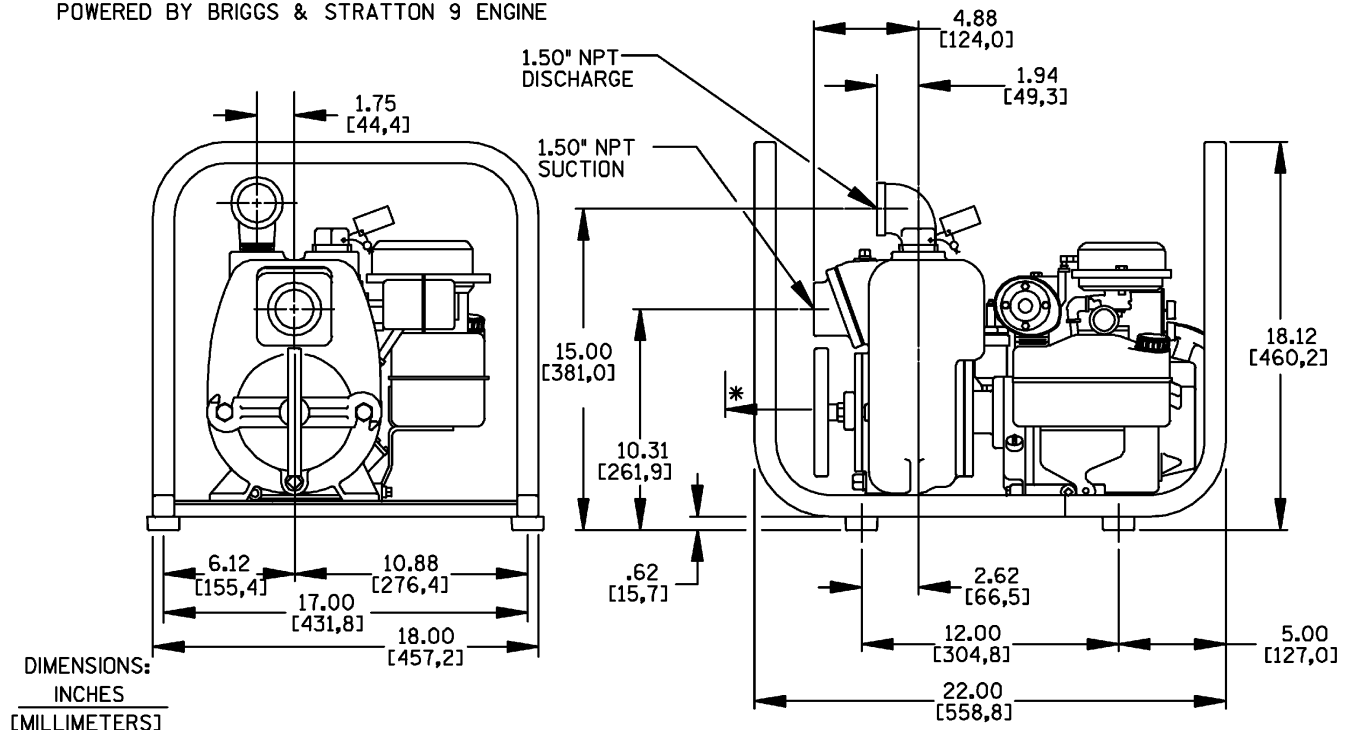

Figure 1. Pump Model 11 1/2A2-9
See Figure 1 for the approximate physical dimensions of this pump.
- e. The rubber foot mounting kit (see Parts List, Section E, Page E-3) was shipped loose with the pump. Refer to Figure 1, Page E-2 and install the parts as shown.